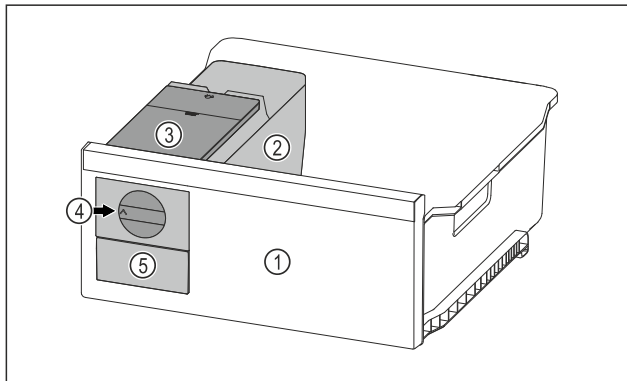

Fig. 165 Example illustration
- ▶ Turn the rotary knob Fig. 165 (4) clockwise as far as it will go.
- ▶ Ice cubes fall from the ice cube tray into the ice cube drawer Fig. 165 (5).